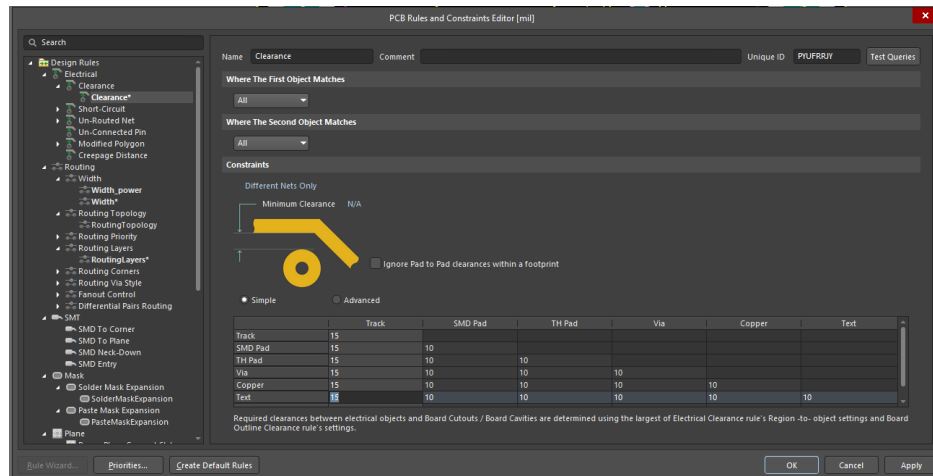

Figure 19: Setting the Minimum Clearance value
- Finally click on the rule named **Clearance** – see Figure 19.